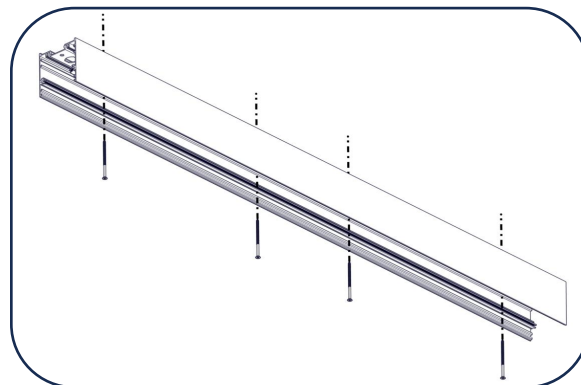

Figure 4
6. Remove the **Cable Plug** where the fixture will access the junction box and install the fixture to the surface using the appropriate mounting hardware for the surface (by others). [Figure 4].